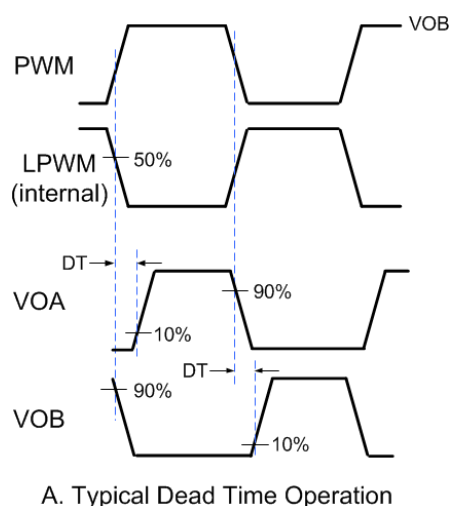

**Figure 2.18. Dead Time Waveforms for High-Side/Low-Side Drivers**
| H   | H               | P               | P    | P    | H   | L   | H               | See Dead-time note and <a href="#">Figure 2.18 Dead Time Waveforms for High-Side/Low-Side Drivers on page 17</a> for timing |
All high-side/low-side drivers (Si82394/8) include programmable dead time, which adds a user-programmable delay between transitions of VOA and VOB. When enabled, dead time is present on all transitions. The amount of dead time delay (DT) is programmed by a single resistor (RDT) connected from the DT input to ground per the equation below. Note that the dead time pin should be connected to GND1 through a resistor between the values of 6 k $\Omega$  and 100 k $\Omega$  and a filter capacitor of 100 pF in parallel as shown in Figure 3.1 Si82394/8 Application Diagram on page 18. It is highly recommended it not be tied to VDD1. See Figure 2.18 Dead Time Waveforms for High-Side/Low-Side Drivers on page 17 below.